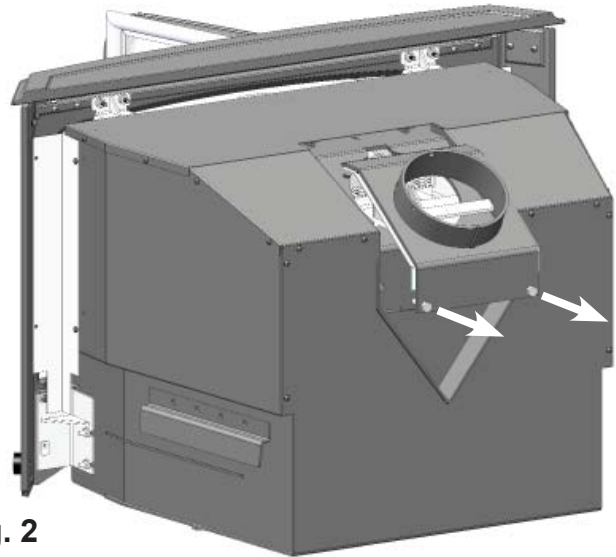

Fig. 2
2. Remove the two nuts from inside the firebox that hold flue collar assembly in place, use a 9/16" wrench (**Fig. 2**). Ensure gasket is still fully intact and adhered to flue collar base. Set flue collar assembly aside until "**flue collar preparation**" later in installation.